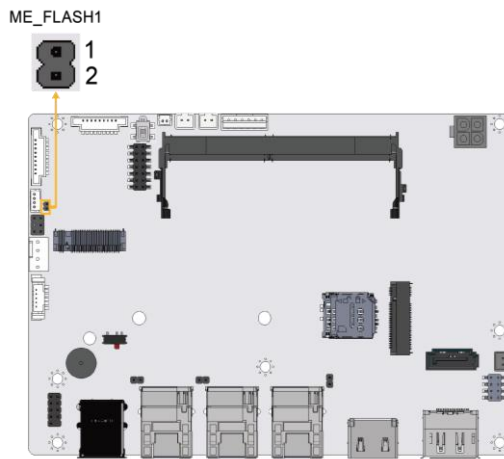

Figure 3-38: ME Override Setting Jumper Locations
- CN Location:** See **Figure 3-38**